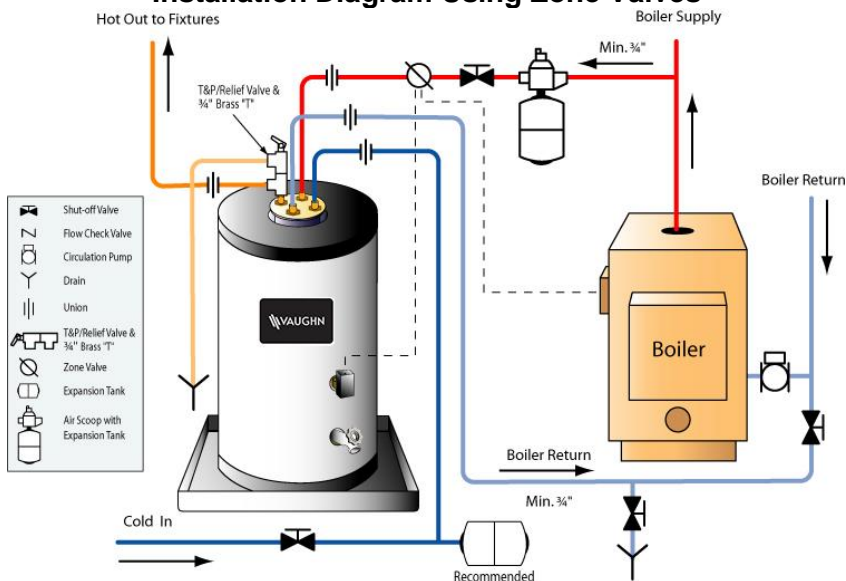
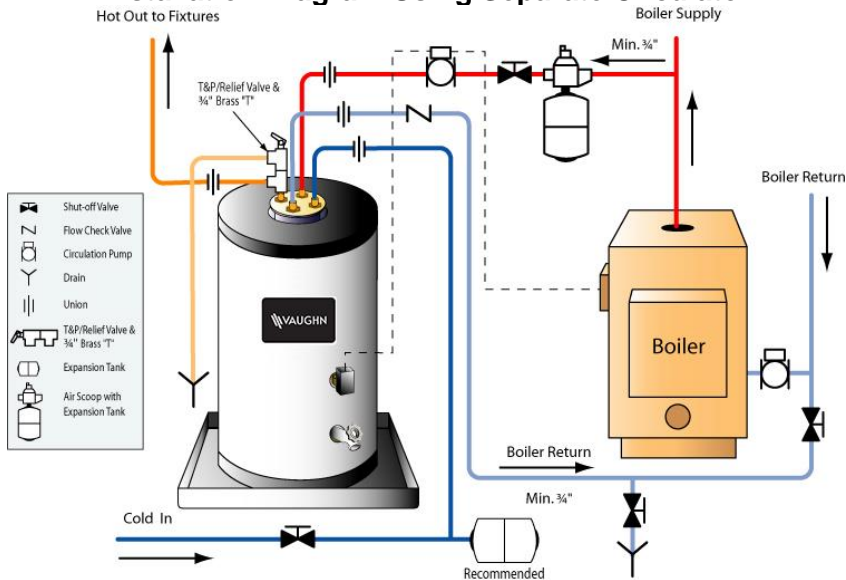

FIGURE 2
FIGURE 3
- ☐ See FIGURE 1 and FIGURE 2 on page 20. (Except model S70DTPP). For model S70DTPP, see FIGURE 3 and FIGURE 4 on page 21.